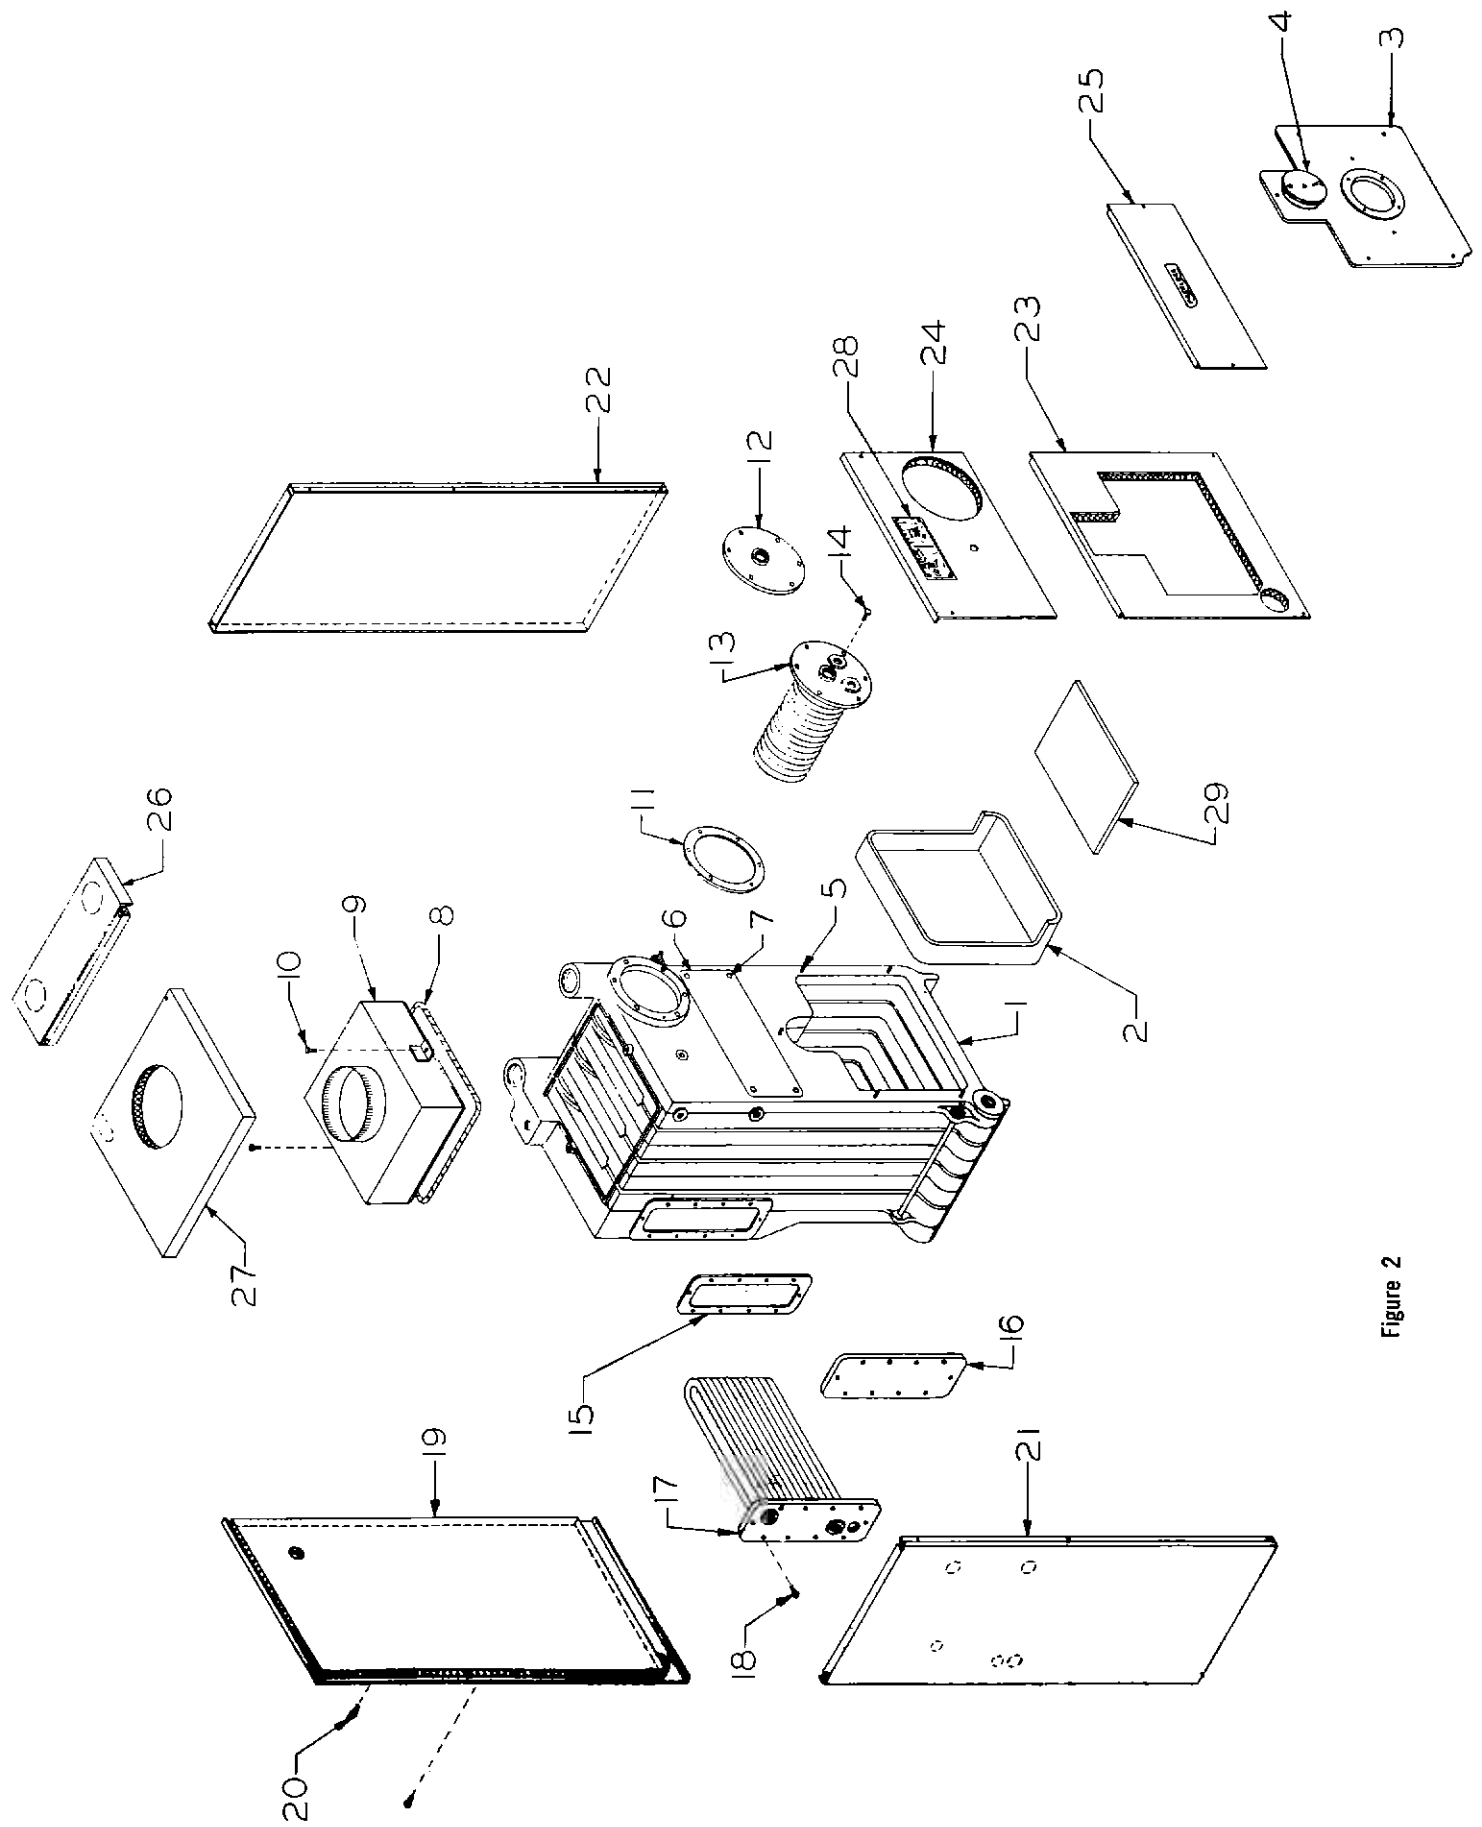

Figure 2
- 2—Open flue collector carton. Remove flue collector (Item 9, Fig. 2) and high temperature rope. Lay rope (Item 8, Fig. 2) on top of boiler against bead provided.
- 2—Mount the burner to the combustion chamber cover plate (3) Figure 2 with the four 5/16" studs and nuts provided.